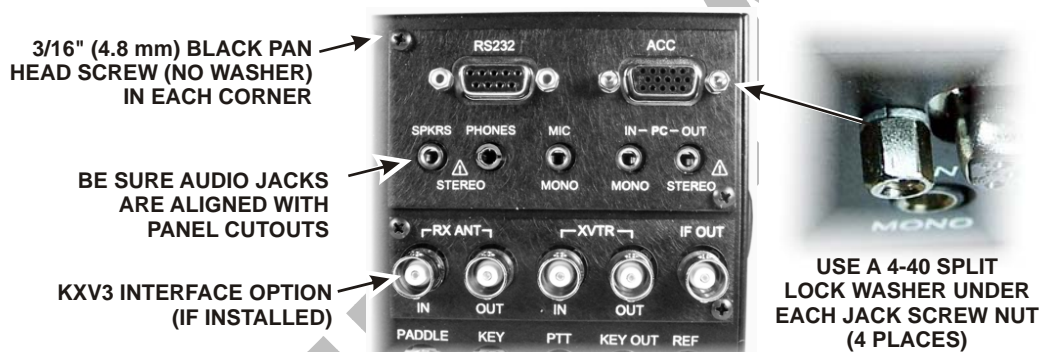

Figure 34. Mounting KIO3 Connector Panel.
- Install the KIO3 rear panel as shown in Figure 34.